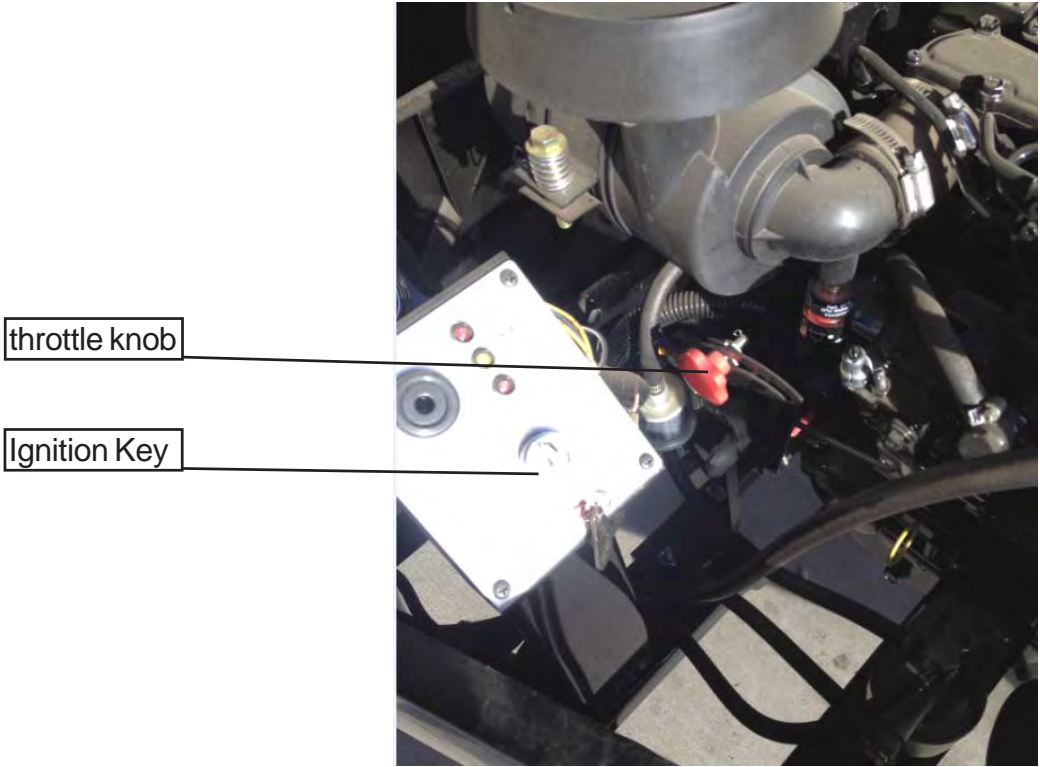

Fig. 5
3. Start the engine. To start the engine, insert the key into the control panel. Turn the key to the preheater first position. Let it warm up for 30 seconds or so. The warning lights should turn "ON". Turn the key to the second position. The engine should start. Release key once engine is running. Leave at idle while heating up the hot oil. When you are ready to aggitate, then move the throttle lever to set the engine at the desired speed (see Fig. 5). Make sure mixer control valve switch is in the neutral position.
3. Idle down the engine with the throttle lever and turn off key. (See Fig. 5)